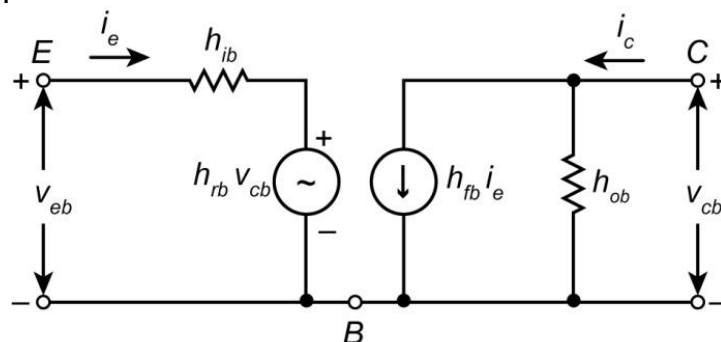

Fig. 5.14: Hybrid circuit of CB configuration.
For calculating the current gain, voltage gain, input impedance and output impedance, we need to use the CB parameters  $h_{ib}$ ,  $h_{rb}$ ,  $h_{jb}$  and  $h_{ob}$  as shown in Fig. 5.14.
1. Using the hybrid circuit for the CB configuration shown in Fig. 5.14, prove